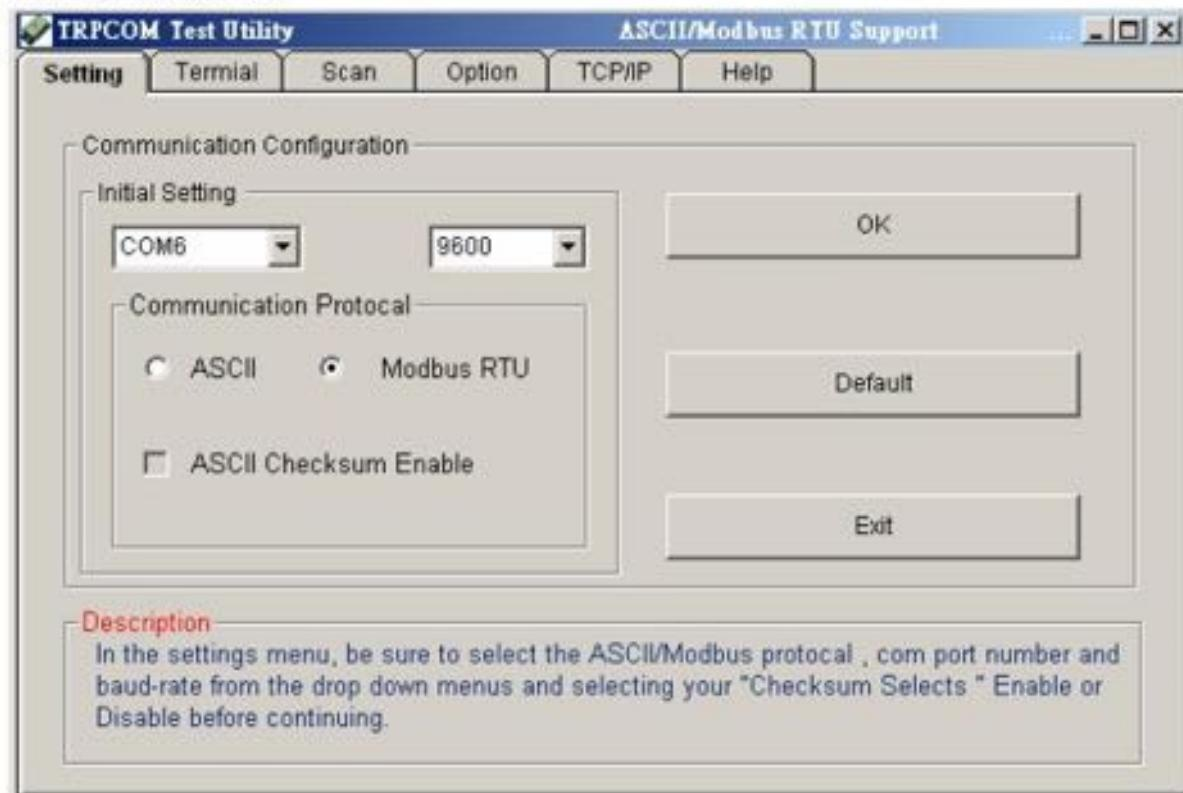

Figure 1
1.The "Setting" function is for user to initiate the software to set the Com Port from 1 to 8 and setting the Baud-Rate from 1200 to 19200,Checksum Enable or Disable. ...See Figure 1